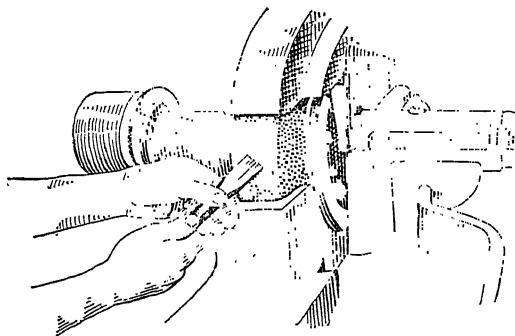

Fig. 220.—Proper way to hold a cold chisel when grinding.
**252. Grinding a Cold Chisel.**—Much better control of the chisel is obtained if it is held as shown in Fig. 220 with the left hand resting on the tool rest. Do not hold the chisel too hard against the wheel or the temper will be lost. A flatter and better facet will result if the chisel is held slightly canted and moved slowly back and forth across the face of the wheel, especially if the wheel is at all worn. As the tendency is to